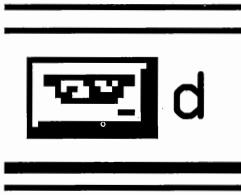

Fig. 12: CD-ROM drive icon (designation D) in File Manager
- Next to the icons for your hard disk drive (C) and your floppy drive (A) are three CD-ROM drive icons, one for each of the trays in your unit's magazine (D, E, and F). (See Figure 12.) Depending upon the number of drives previously installed in your system, your CD-ROM drive trays may have different letter designations, such as E, F, and G.